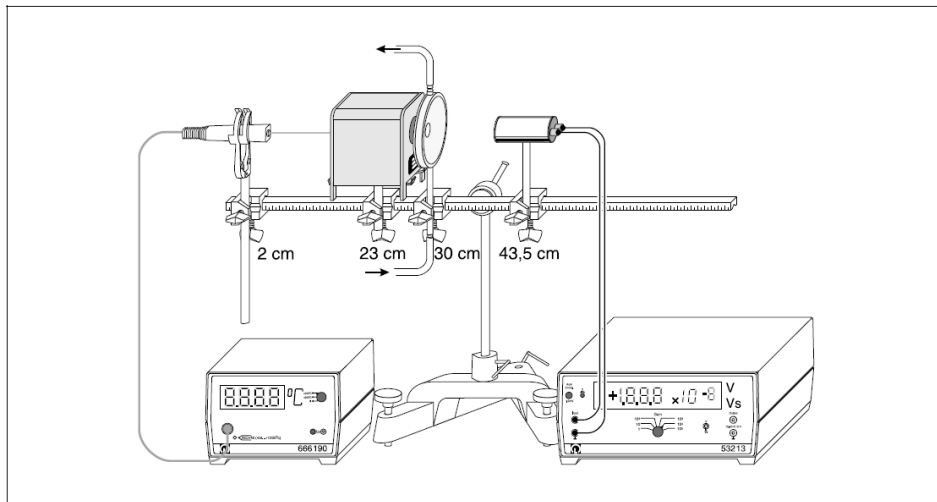

Figure 1.3: Experiment setup and electrical connections. In brackets: positions of the clamps (left clamp edge) on the optical bench.
1. Make the necessary connections with regards to your experimental set up as in Figure 1.3 and take the room temperature.